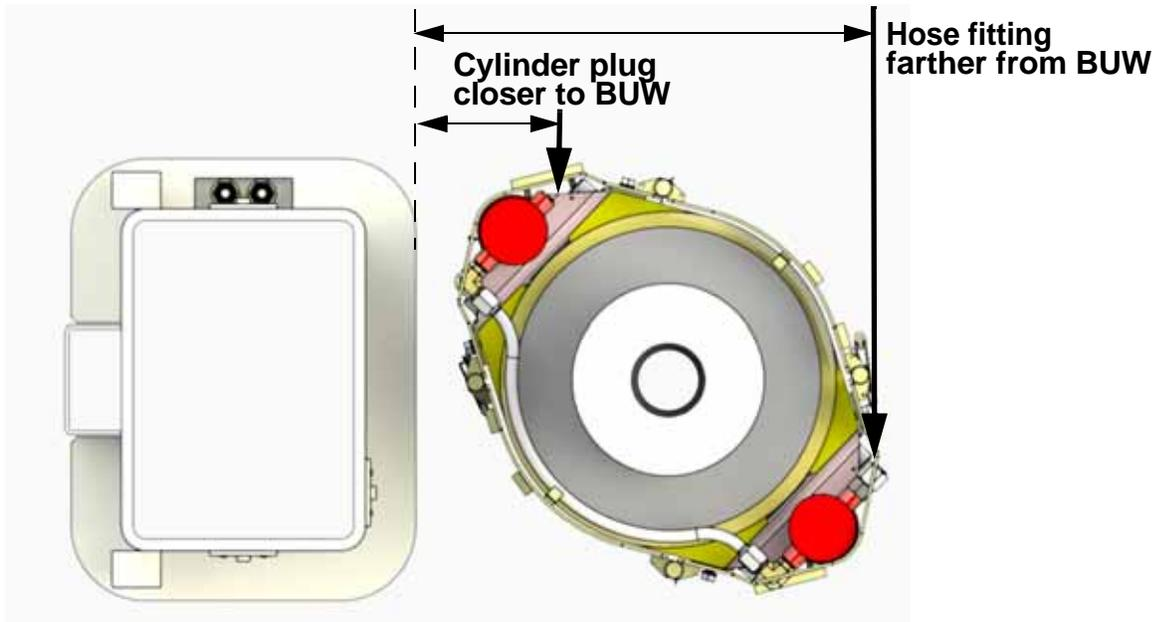

Figure 5: Top view, correct LWCV rotation.
3. Rotate the actuator so that the hose fittings are away from the BUW and the cylinder plugs are closer to the BUW. See Figure 5.